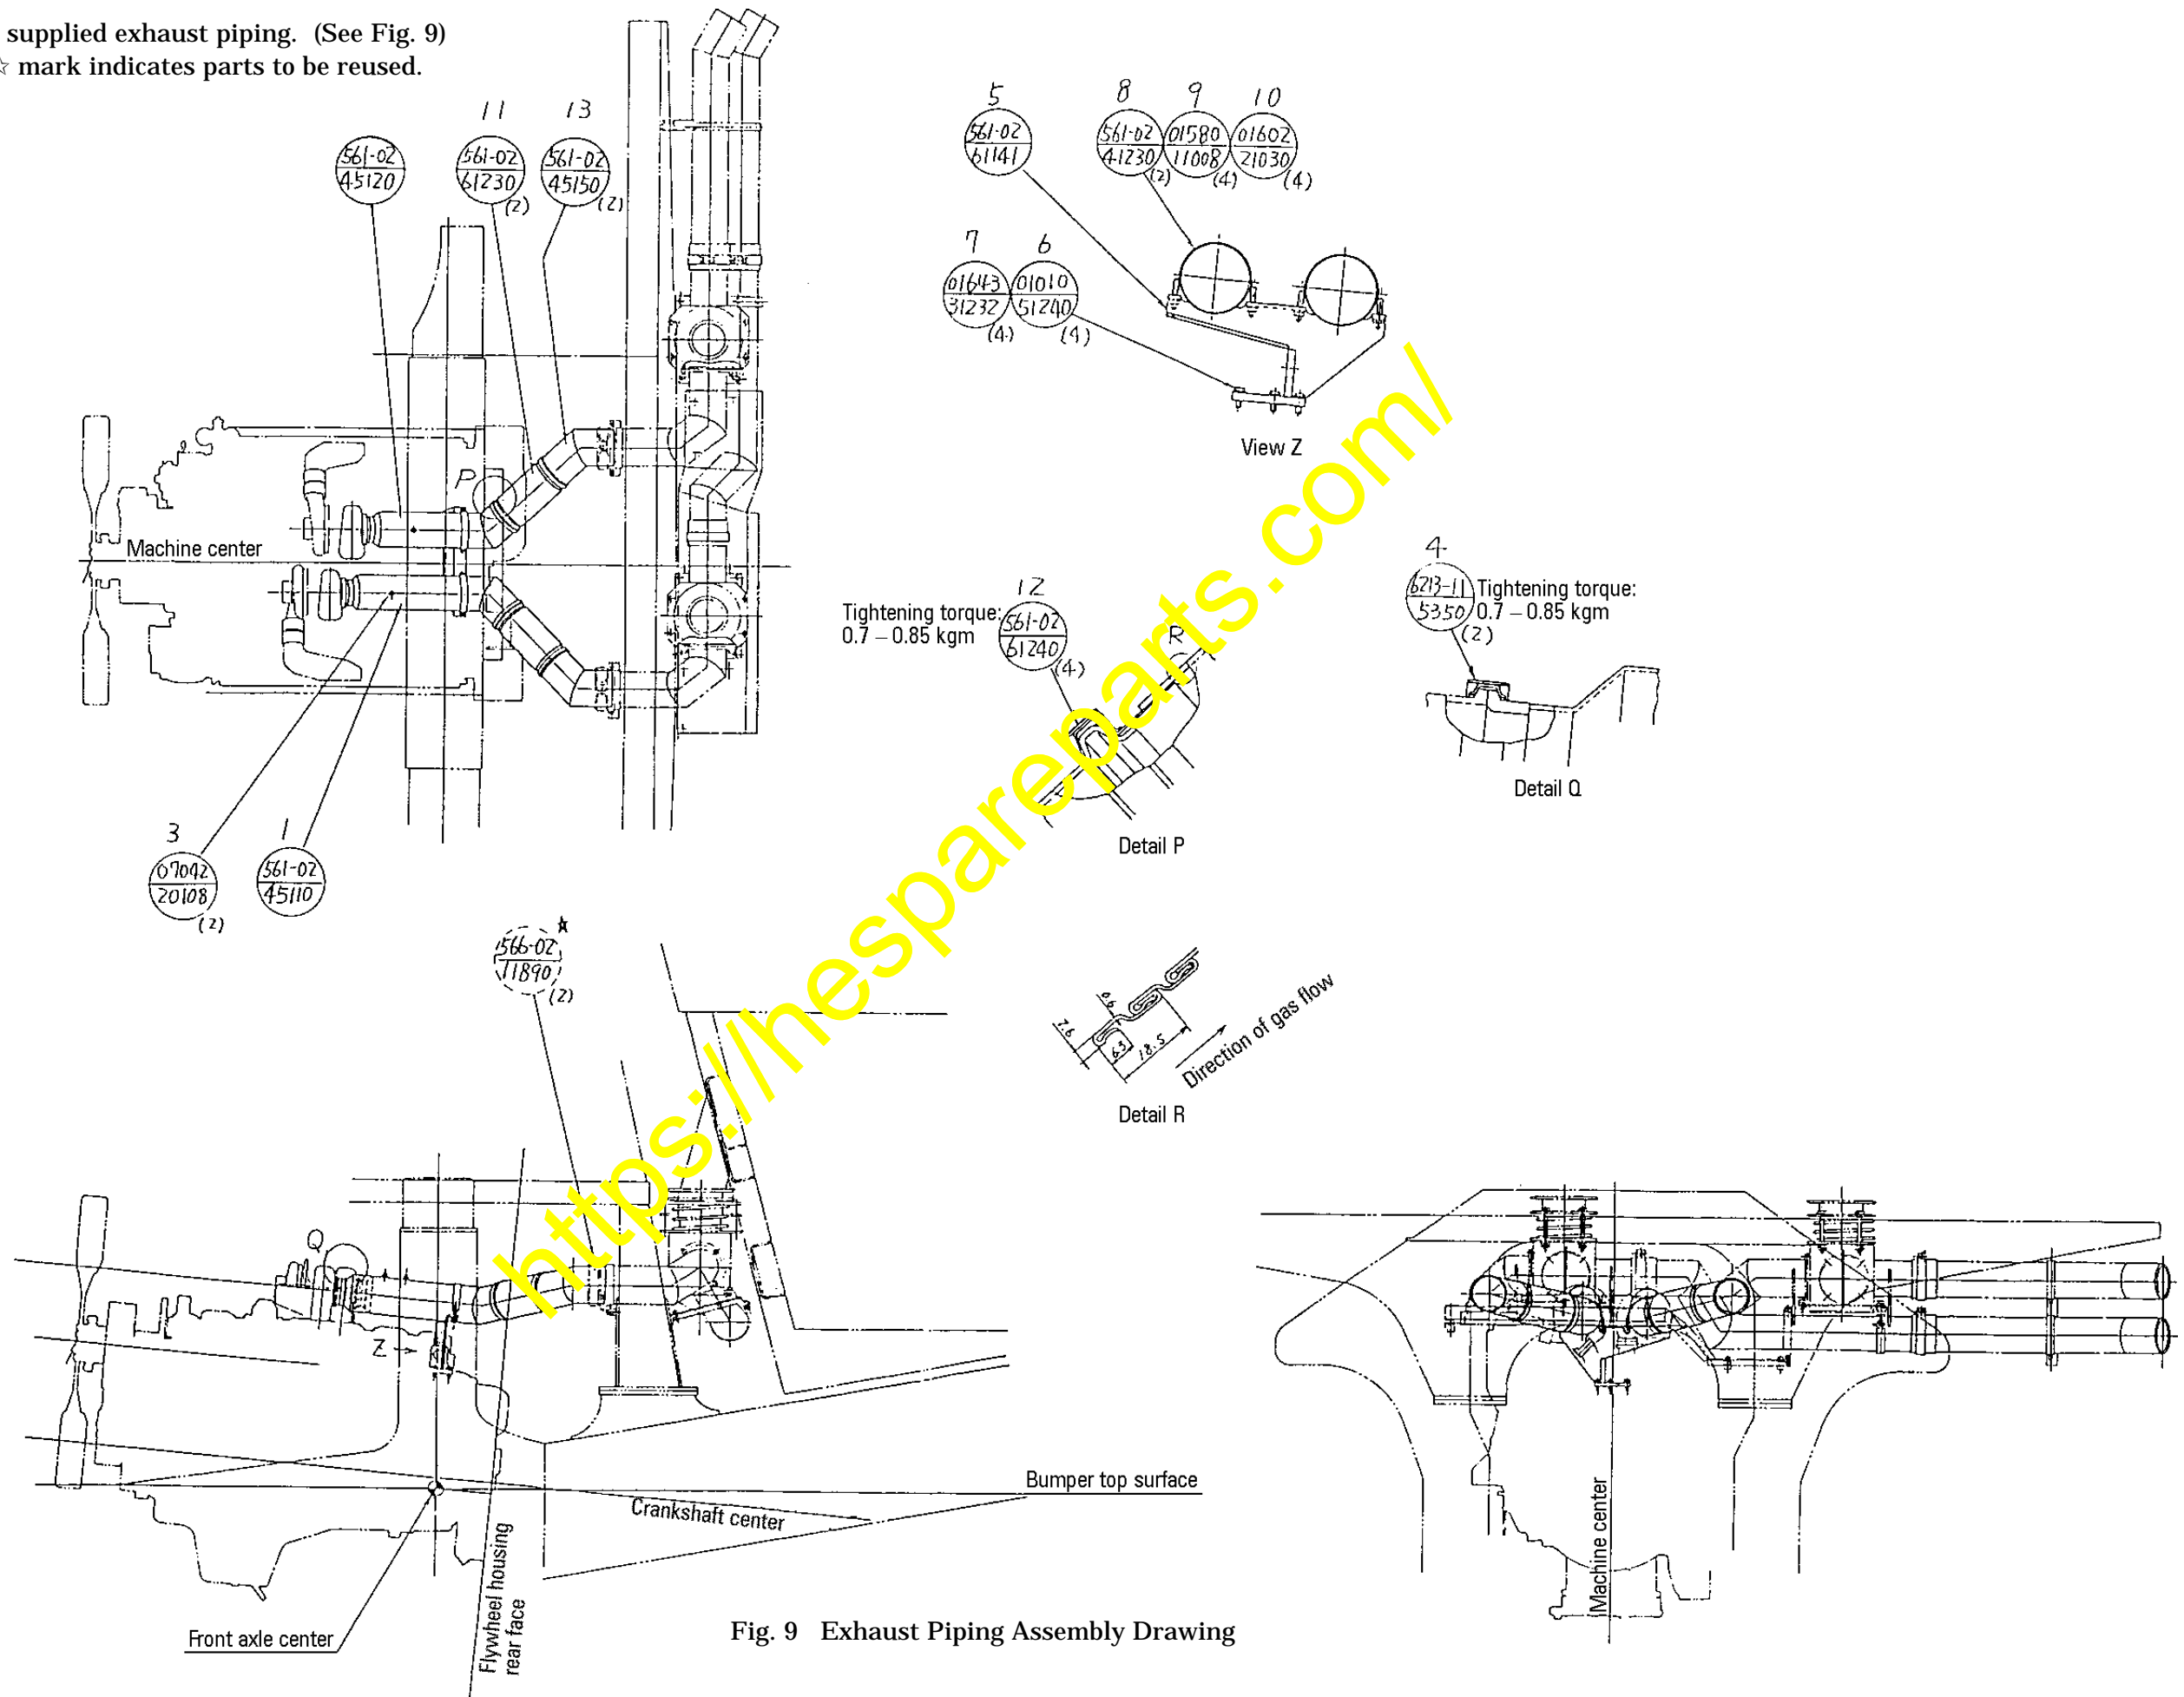

Fig. 9 Exhaust Piping Assembly Drawing
- (2) Install the newly supplied exhaust piping. (See Fig. 9)